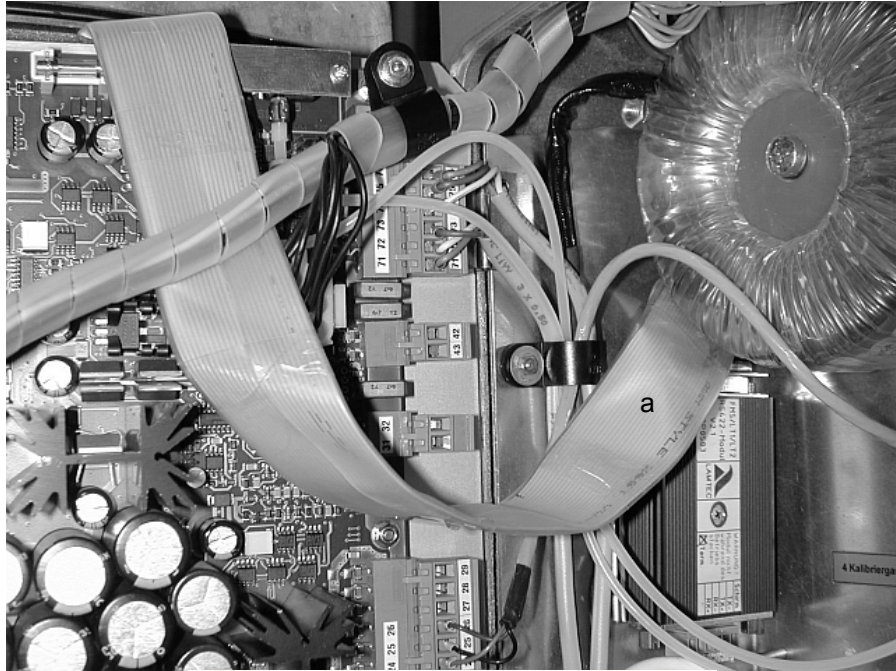
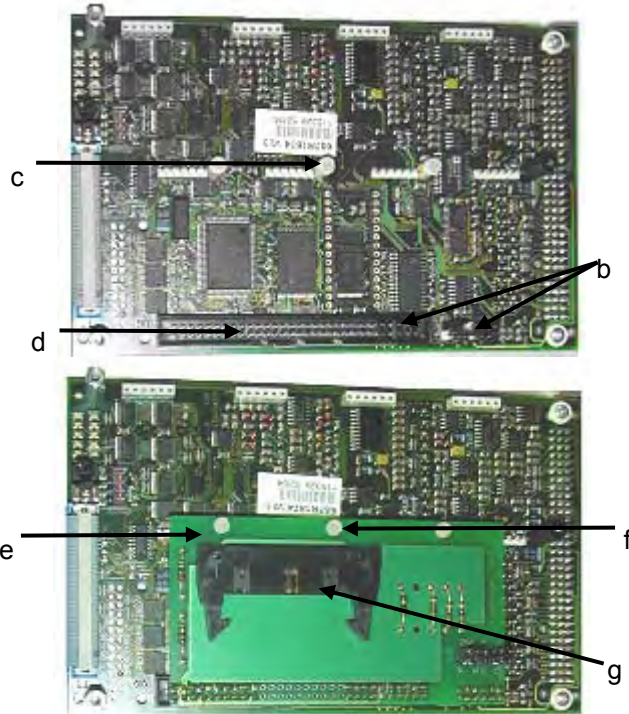

Fig. 10-14:
Fig. 10-15:
3. Attach the RS422 module on the side wall of the housing using double-sided adhesive tape (a). See Fig. 10-14.
4. Plug the connection cable (5) into the RS422 module and route it over the front plate to the front side of the LAMBDA TRANSMITTER E . Then close the front plate. See Fig. 10-14.
5. Remove the jumpers (x 9) from the processor board (b). See Fig. 10-14.
7. Plug the adaptor board (2) in to the processor board (d) (e).
8. Screw the adaptor board (2) back together with the plastic screws (f).
9. Connect the RS422-module connection cable (5) to the adapter board (2)(g). See Fig. 10-15; 10-16